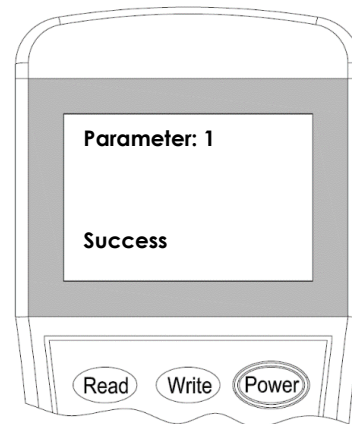

Figure 13
2. Input the “1” then press “Write” to change the setting (Figure 13) and LED will turn-off. To resume the default setting, press “Clear” and then press “Write”.